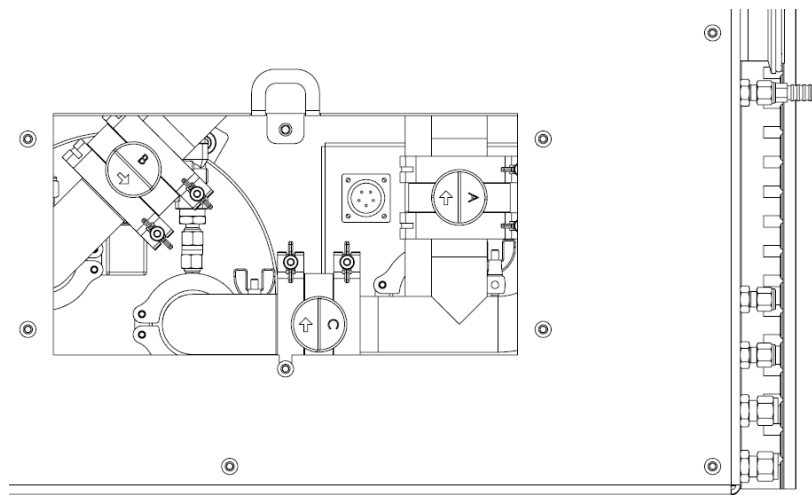

Figure 17 - Solvent Removal Column - Closed
- 1 Using a 5/32" Allen wrench, loosen the hardware to slide the top panel (**FIGURE 17**) open.